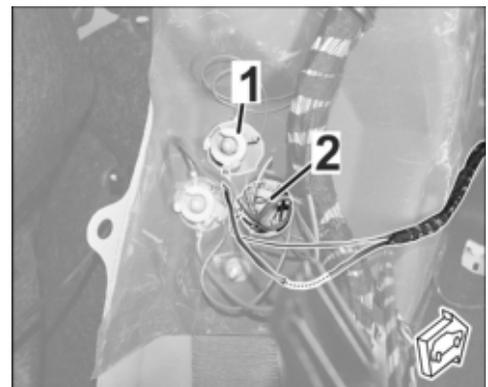

Figure 7
- Brown (6 mm²) on MPB 43 ⇒ Figure 7 -1-
- Brown (2.5 mm²) on MPS 43 ⇒ Figure 7 -2-